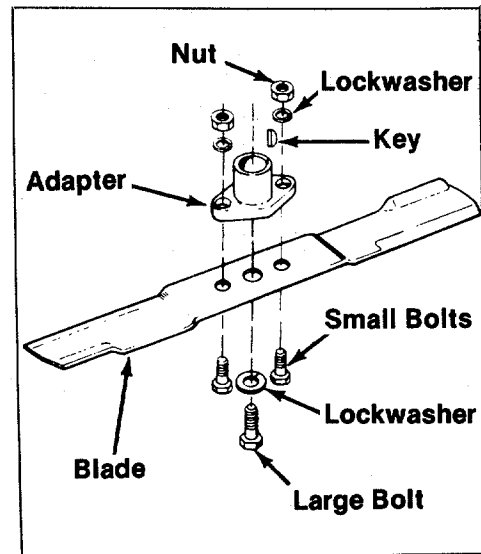

FIGURE 31.
3. Remove the two smaller bolts, lockwashers and nuts holding the blade to the adapter. (See figure 31.)